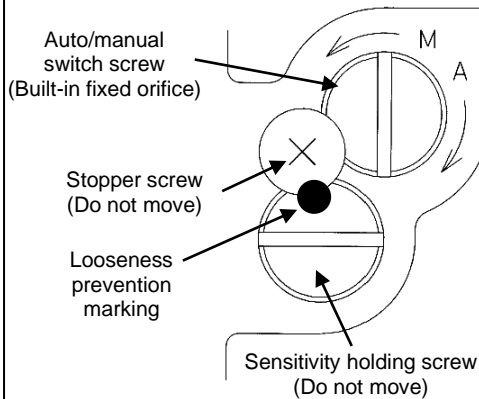

Fig. 7
*6: Auto and manual mode can be switched by rotating the pilot valve unit auto/manual switch screw to the manual (M) side as shown in Fig. 7. A small stopper screw in the top is to prevent loosening and must not be tampered with or loosened. Also, a sensitivity holding screw is set prior to factory shipment and must not be accidentally rotated.